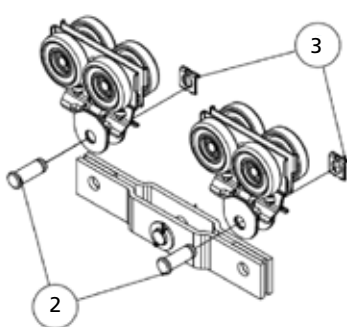

fig.61
3. Insert the connection bracket inside the trolley plates. (fig. 61)
4. Reassemble the suspension pins 2 and block them with the clips 1. (fig. 61)